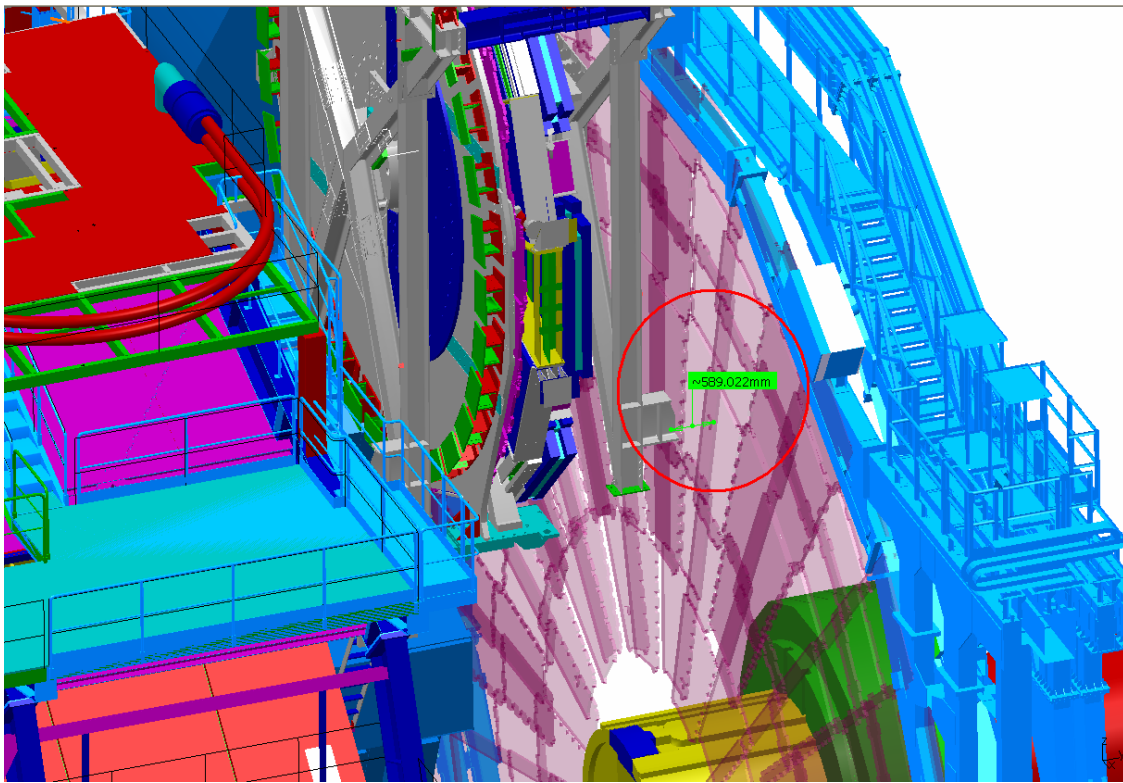

Figure 3 Clearance 589mm with Big Wheel Chambers, segment#3 altitude 70m
- Wheel Chambers during the vertical movement down on segment#3. Length of segment is 1.91m. This value makes possible to set the clearance up to 589mm between SW+JD and Big Wheels chambers during the further vertical movement on segment #3 (figure 3).